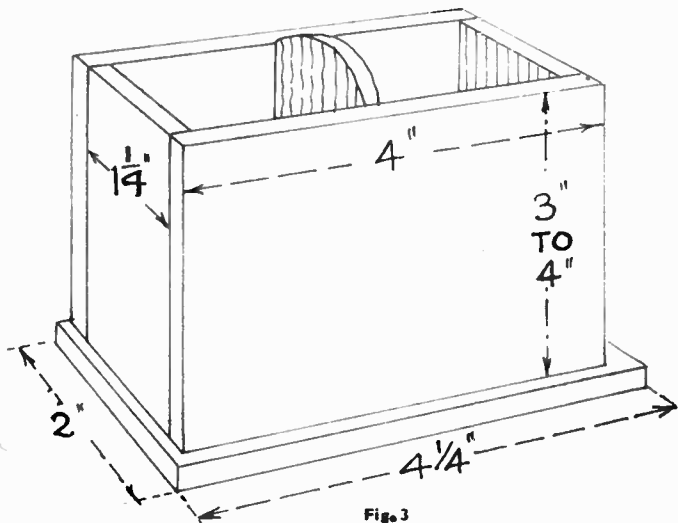

Fig. 3
Unless the rack is screwed into woodwork the wall should be well plugged first. The rack could be made to fold back closer to the wall by fixing a block of wood between the rack and the wall on the right hand side as shown in (C), Fig. 3, or to the left side if it folds in the opposite direction. (201)
To make the holders shown here, we shall require only a few pieces of odd wood, cut square, glued up, and put on a suitable base. In Figs. 3 and 4 the general construction is shown. There are two pieces cut as (A), for front and back, all the necessary measurements